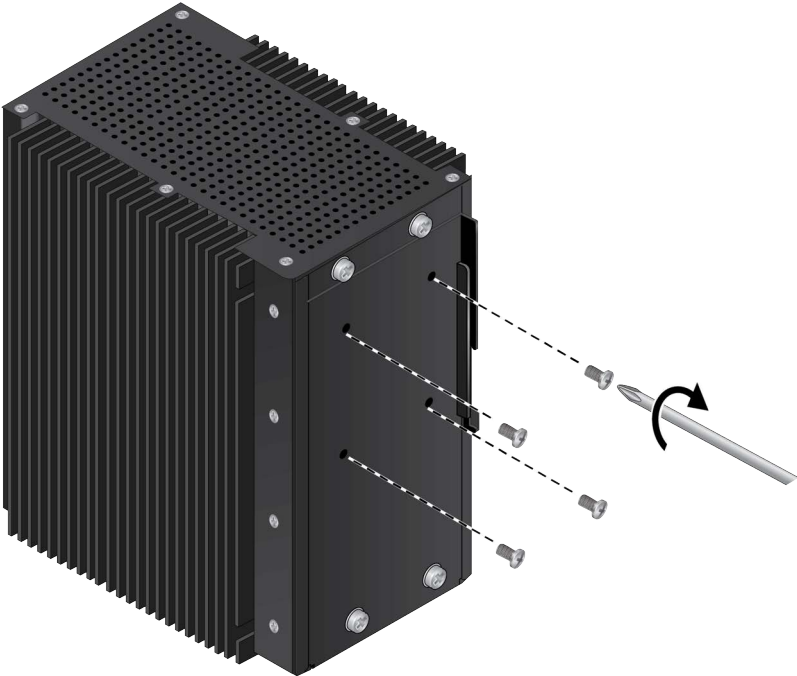

Figure 34. Reinstalling the DIN Rail Bracket Screws
- 3. Reinstall the bracket screws. Tighten the screws to 18 in-lbs. Refer to Figure 34.
3. Reinstall the bracket screws. Refer to Figure 34 on page 85.